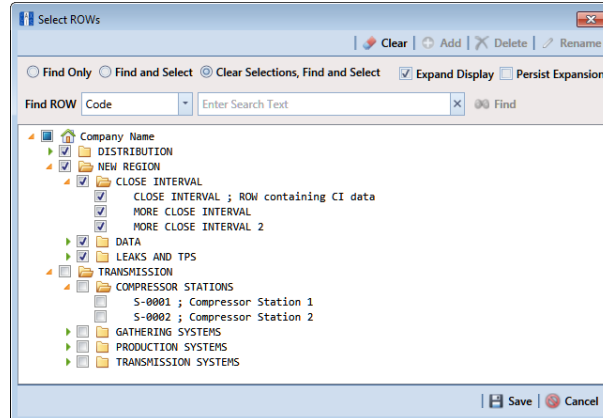

Figure 7-42. Select ROWs
- 1 Select one or more pipeline segments in the *Select ROWs* window (Figure 7-42). Select pipeline segments with facilities included in a schedule, then click  **Save** to close the window.